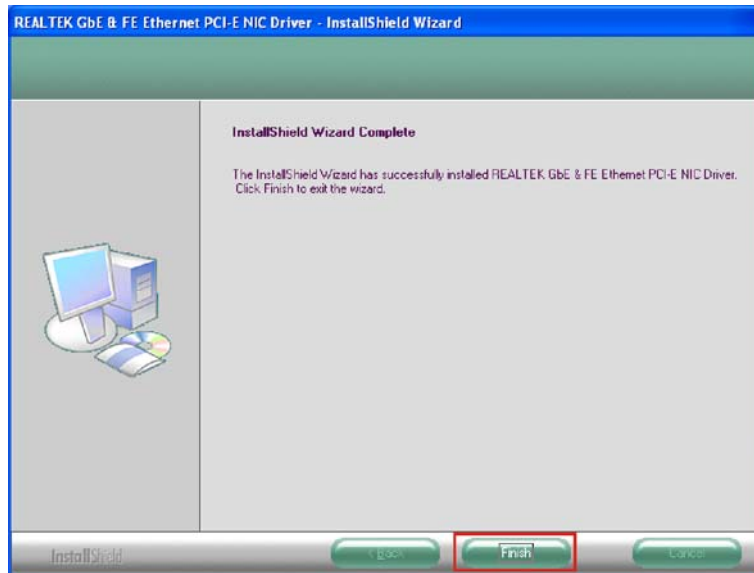

Figure 6-19: LAN Driver Installation Complete
Step 9: When the driver installation is complete, the screen in **Figure 6-19** appears.
Step 10: Click **FINISH** to exit the InstallShield Wizard (**Figure 6-19**).